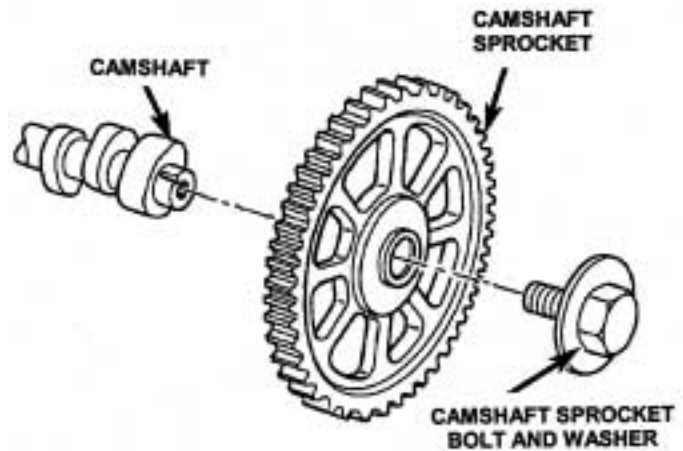

Figure 15
40. Tighten the camshaft sprocket bolt and washer to 50 ft. lbs. (68 N·m) (Figure 15).